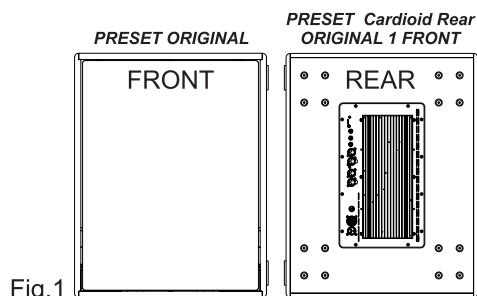

Fig.1
- **CARDIOID REAR ORIGINAL 1 FRONT:** A preset for use in systems with two subwoofers; set the ORIGINAL preset on the speaker facing the audience (fig.1).